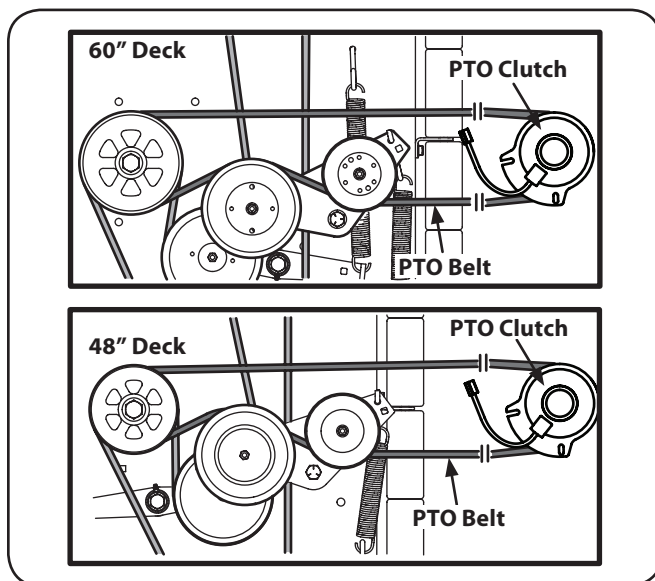

Figure 7-5
1. Remove the PTO belt from the deck as instructed in the Deck Removal section then remove it from around the PTO clutch. See Fig. 7-5.
- Route the PTO belt as shown in Fig. 7-5. After routing the belt around the PTO pulley, use a $\frac{1}{2}$ " drive in the idler pulley bracket and turn towards the right of the tractor to finish routing the belt around the idler pulley.